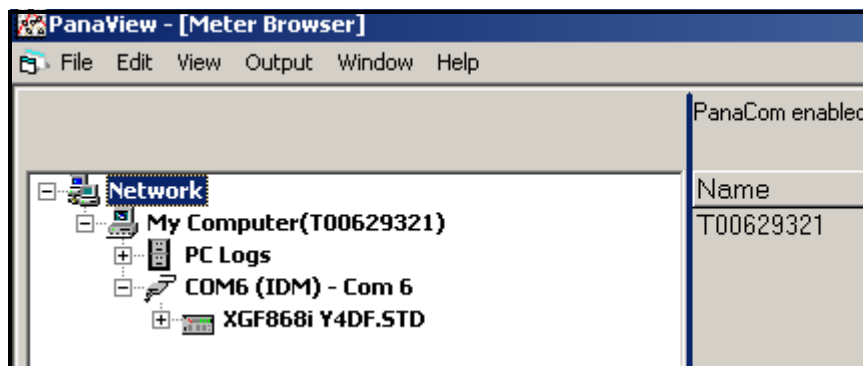

Figure 15: The Text Display Window
2. Using the *Window* menu, as described in the *PanaView User's Manual*, arrange the open windows in the desired format. For this discussion, Figure 15 below shows the *Text Display* window in its maximized (full-screen) size.
5. Before actual data values can be displayed in the text pane, activate one of the following data collection modes (see *Figure 15 on page 47*):